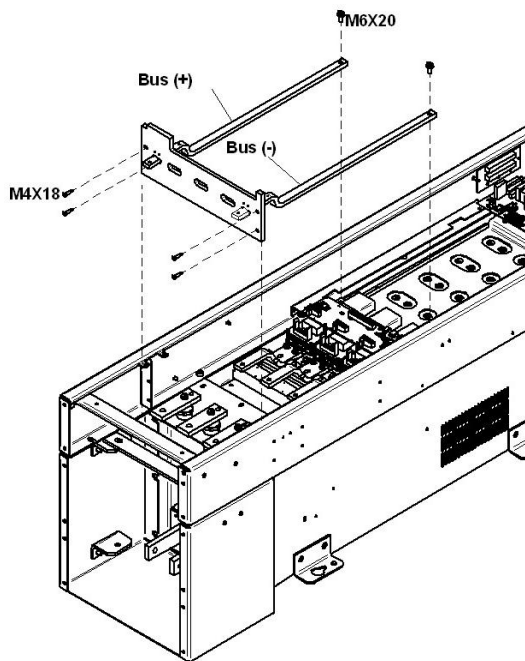

Figure 3.14. Disassembly of the output bakelite
Follow figure 3.14 while reading these instructions:
- 1) Place the output bakelite in the SD700 following figure 3.14.